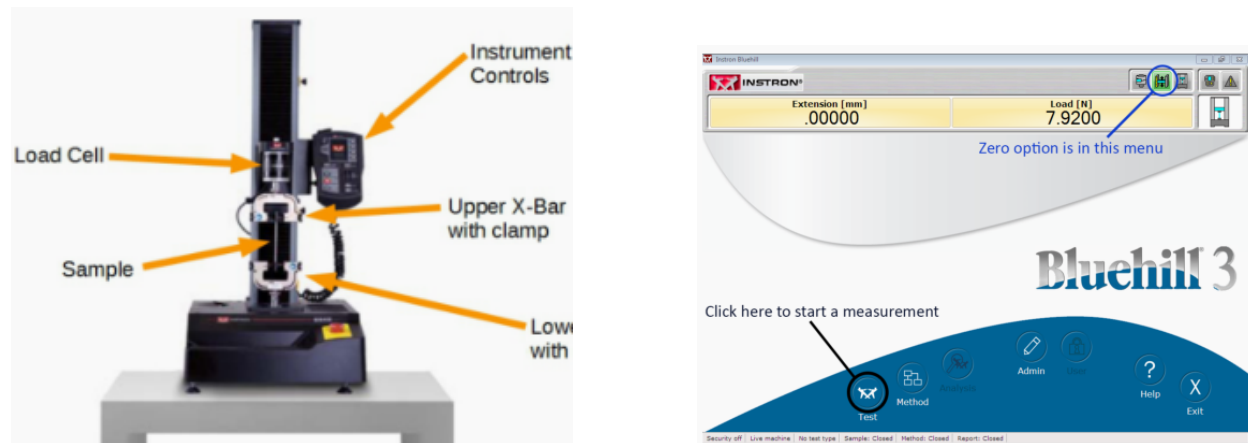

Figure 2: Left: The Instron tensile tester. Right: The Bluehill software interface.
2. **Load Sample:** We use an Instron Material Testing System (Figure 2). Follow the TA's instructions to load the rubber sheet into the clamps.